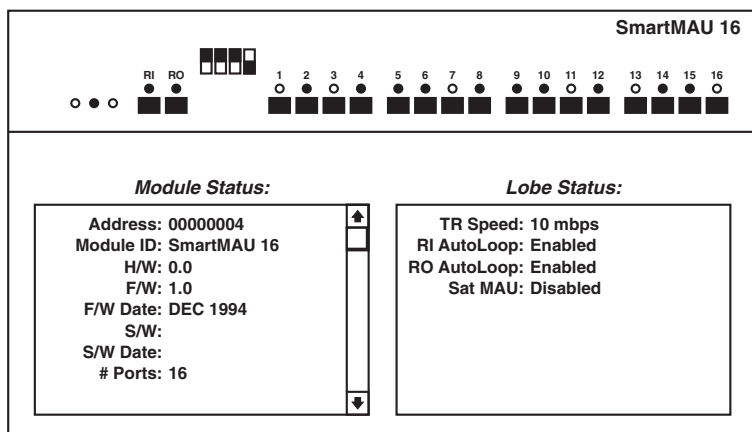

Fig. 5-9. Expanded Chassis Window.
4. Expanding the view of a SmartMAU 16 causes the Expanded Chassis window to appear (see **Fig. 5-9**).
As shown in **Fig. 5-9**, SmartMAU Utility Software displays a working representation of the MAU front panel that reflects the actual chassis LED conditions and lobe status.